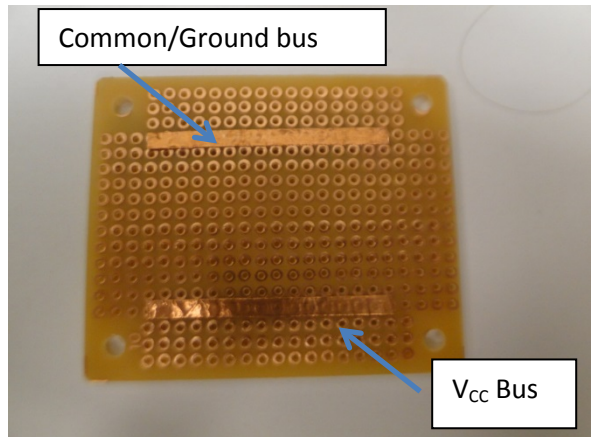

Figure 5
- Cut two pieces of copper foil tape about 1 ½ inches long using flush cutters. Remove the paper backing from the back of the tape and place on the perfboard. Use your finger to smooth the tape. Don't be concerned if tape is a little loose because the glue gets stronger when you heat it to solder components to it. See Figure 5. Below.